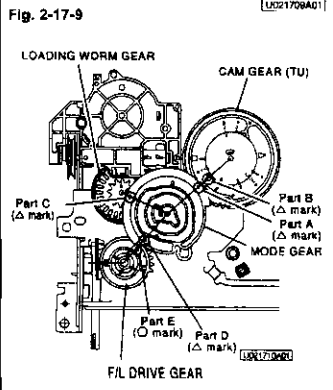

Fig. 2-17-9
- 12 Apply GREASE (MULTEMP SH-A) [859D055080] to the area shown in Fig. 2-17-9 on the new MODE GEAR.